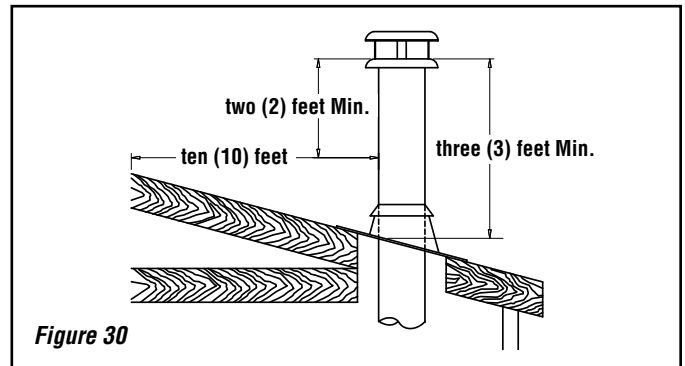

Figure 30
5. The minimum chimney height is twelve (12) feet (3.7 m). In altitude, add 18" (450 mm) to the chimney for every 2,000 feet (600 m) above sea level.
6. **All chimney* installations must include at least one support.** Reducing the amount of chimney weight on the fireplace will help avoid the noise created when the fireplace expands. This can be achieved by having the chimney supported by the supports. The maximum chimney length that can be supported by the fireplace is nine (9) feet (2.75 m) for S-2100+/HT6000+, twelve (12) feet (3.7 m) for ASHT+ / HT6103+ / DuraTech DTC* and 26 feet (8 m) for AC chimney.
7. The chimney must extend at least three (3) feet (915 mm) above its point of contact with the roof and at least two (2) feet (610 mm) higher than any wall, roof or building within ten (10) feet (3m) of it (**Figure 30**).
8. If the chimney extends higher than five (5) feet (1,500 mm) above its point of contact with the roof, it must be secured using a roof brace.